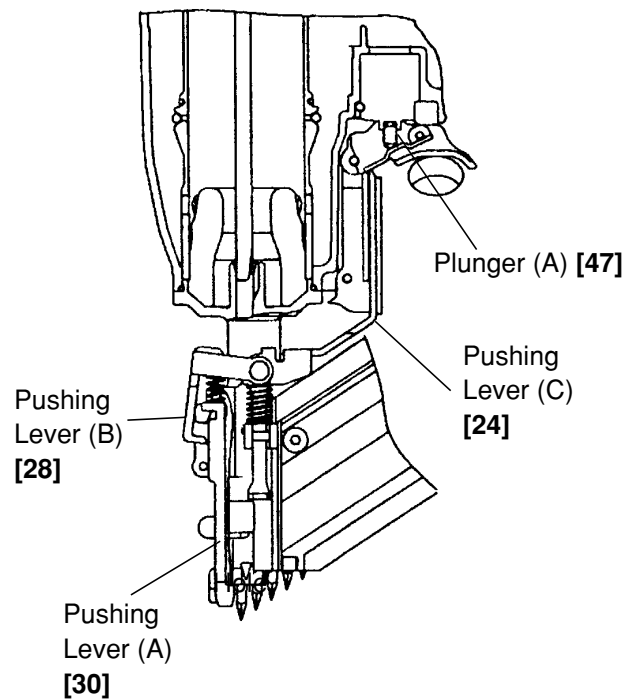

Fig. 10
(d) Push up the tip of Pushing Lever (A) [30]. Then only Pushing Lever (A) [30] moves while Pushing Levers (B) and (C) [28] and [24] do not move. Since Plunger (A) [47] is not pushed up, the nailer does not start (Fig. 10).
When the number of nails in the Magazine [74] becomes five or less, the Pushing Lever Stopper [80] moves the bent portion of Pushing Lever (C) [24] downward. The status of Pushing Lever (C) [24] at this time is shown in Fig. 10. Thus the nailer does not start even if the Trigger [52] is pulled or the pushing lever is pushed up.